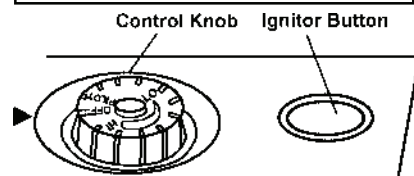

Figure 19 - Control Knob in The OFF Position (HB10TL)
4. Wait five(5) minutes to clear out any gas. Then smell for gas, including near the floor. If you smell gas, STOP! Follow "B" in the safety information on the side of heater. If you don't smell gas, go to the next step.
5. Turn control knob counterclockwise ↻ to the PILOT position. Press in control knob for five(5) seconds. (see Figure19).